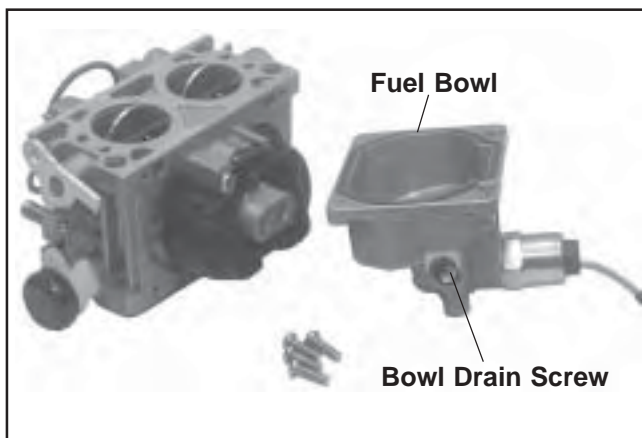

**Figure 5-21. Installing Fuel Bowl.**
9. When the proper float height is obtained, carefully reinstall the fuel bowl, using new O-Rings onto the carburetor. Secure with the four original screws. Torque the screws to  $2.5 \pm 0.3 \text{ N}\cdot\text{m}$  ( $23 \pm 2.6 \text{ in. lb.}$ ). See Figure 5-21.